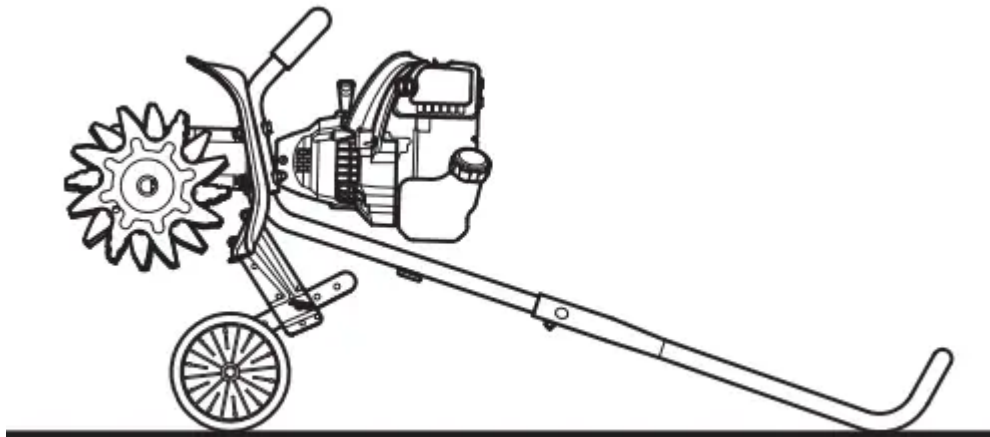

Fig. 13
2. Set the unit on a flat, level surface. Tip the unit back so that the handlebar touches the ground and the engine is in a horizontal position (Fig. 13).